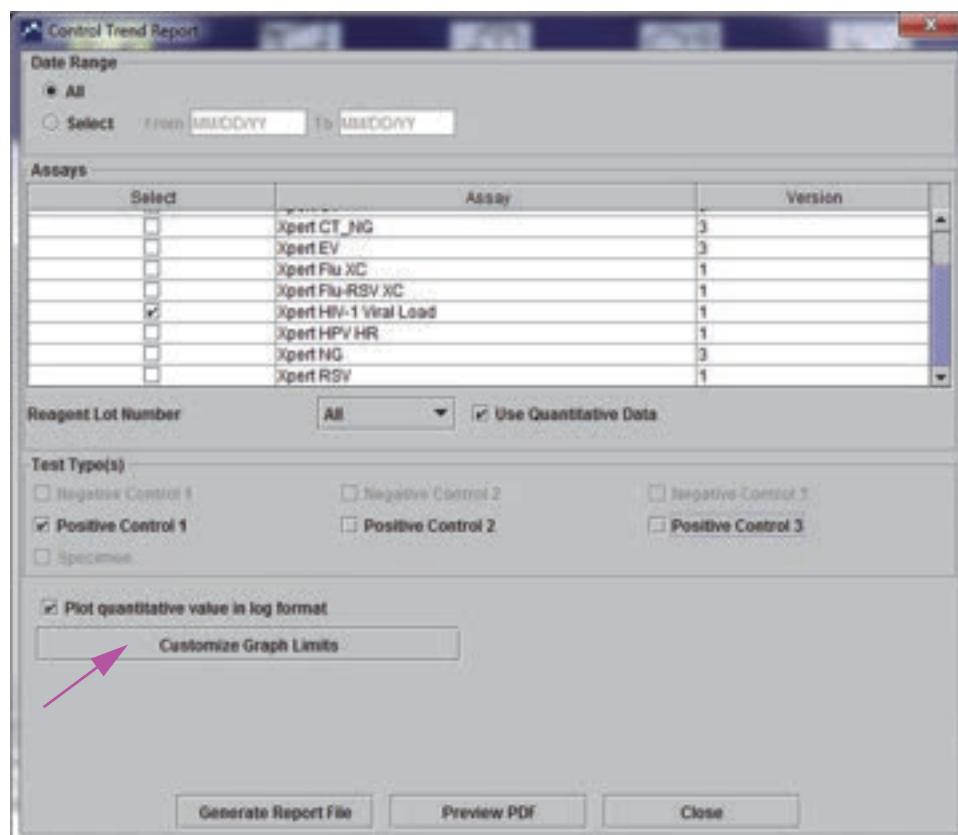
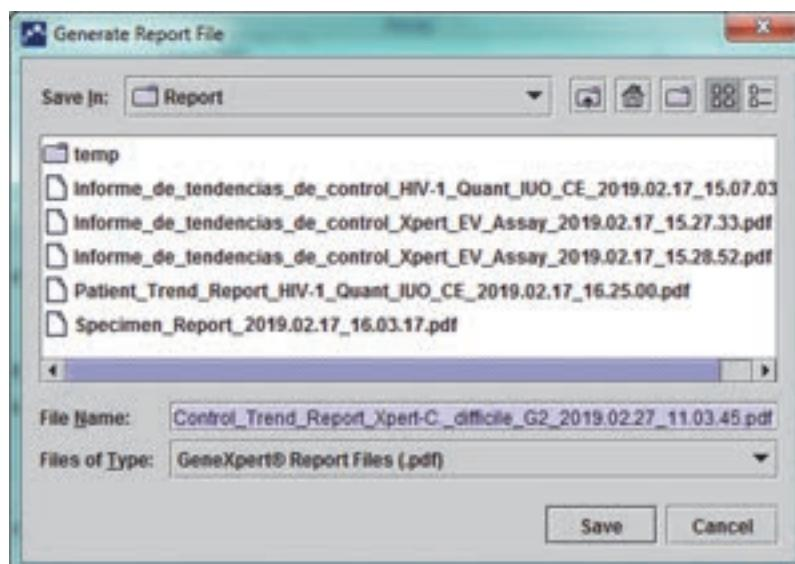
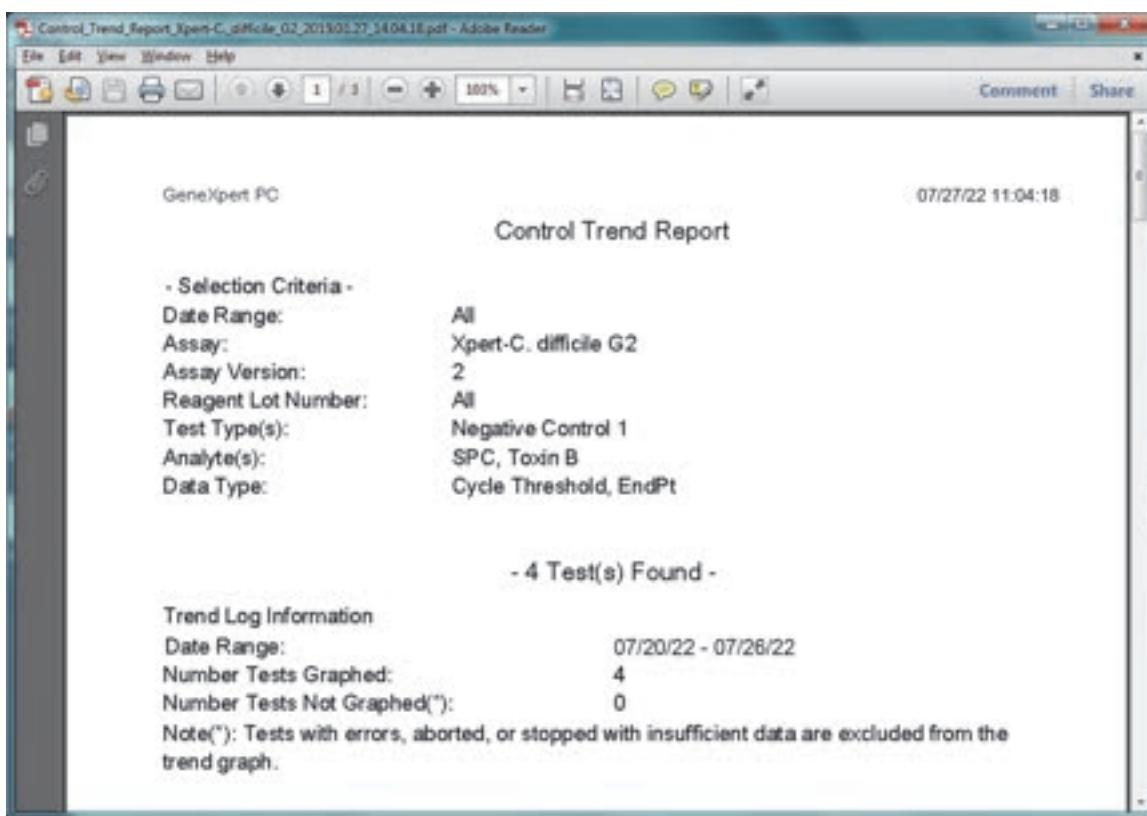

Figure 6-4. Control Trend Report Dialog Box Showing Quantitative Assay Selected
Figure 6-6. Generate Report File Dialog Box
Figure 6-7. Example Control Trend Report in the Adobe Reader Window
3. Select the assay to generate the Control Trend Report. See Figure 6-2 for a qualitative assay selection and Figure 6-4 for a quantitative assay selection.
4. If the assay selected is a qualitative assay, the **Use Quantitative Data** check box is not displayed (see Figure 6-2). If the assay selected is a quantitative assay, the **Use Quantitative Data** check box will be available (see Figure 6-4). Check the **Use Quantitative Data** check box to generate the Control Trend Report using quantitative data.
- Quantitative Assay Options (see Figure 6-4):
- **Generate Report File**—Creates a PDF file and saves it to the location you specify. Click the **Generate Report File** button on the Control Trend Report dialog box (see Figure 6-2 for qualitative assay trends and Figure 6-4 for quantitative assay trends) to create the PDF file of the report. The Generate Report File dialog box is displayed (see Figure 6-6), which enables you to save the file to a specified location.
- **Preview PDF**—Creates a PDF file and displays the file in the Adobe Reader window. Click the **Preview PDF** button on the Control Trend Report dialog box (see Figure 6-2 for qualitative assay trends and Figure 6-4 for quantitative assay trends) to create the PDF file of the report (see Figure 6-7). The PDF file can be saved and printed from the Adobe Reader software.